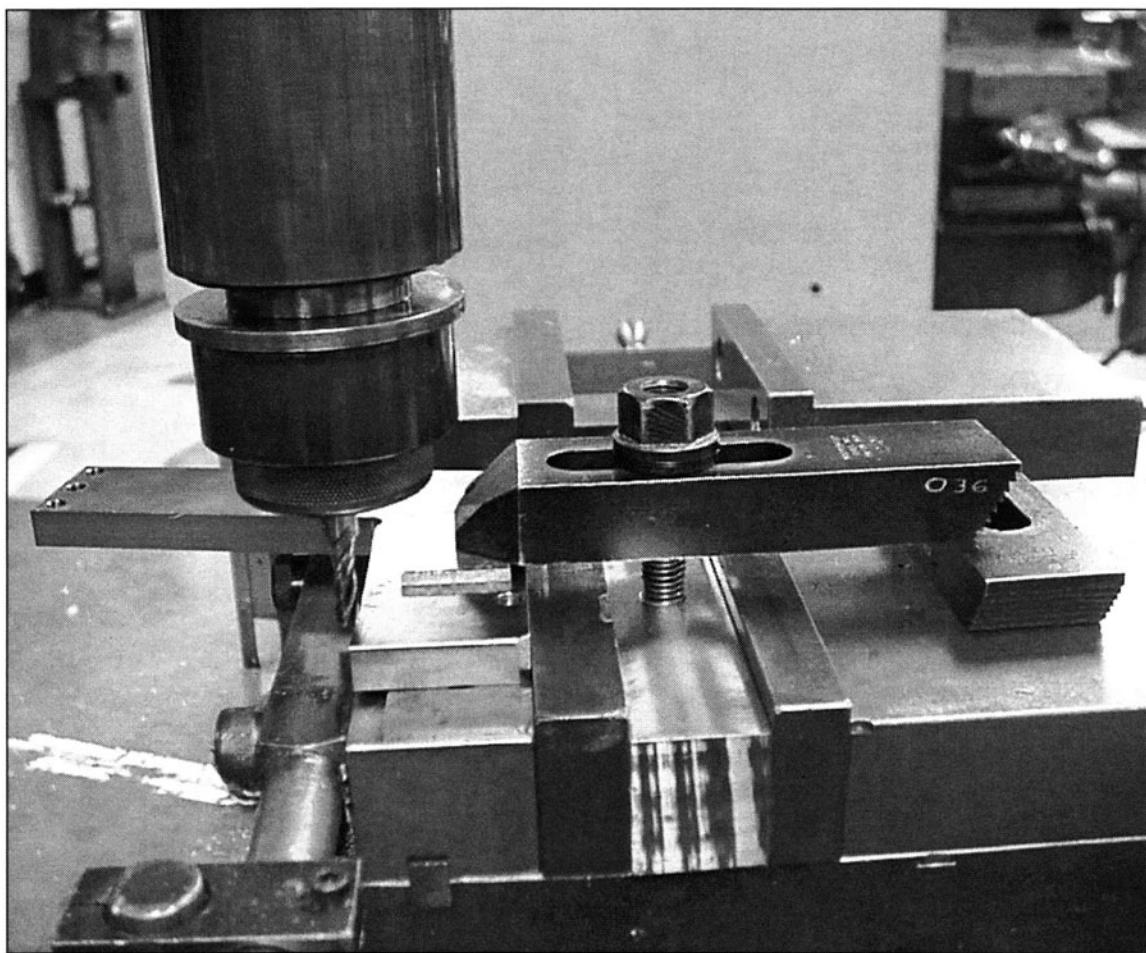

FIGURE 6-25 The block clamped in the vise allows strap clamps to be used to hold parts on the vise itself.
35. *Use strap clamps in combination with your milling machine vise. (See Fig. 6-25)*